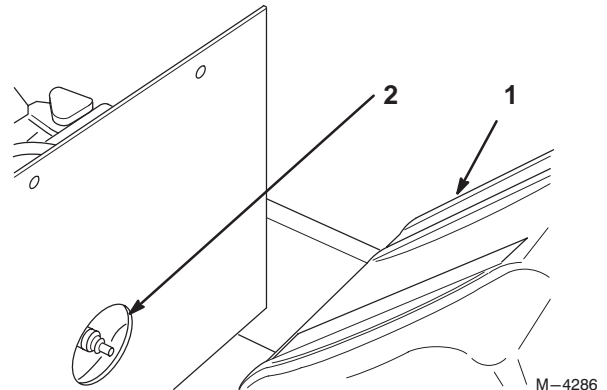

Figure 16
2. To gain access to the rear spark plug, the gas tank must be removed (Fig. 16).
3. Push the wire(s) onto the spark plug(s) (Fig. 16).